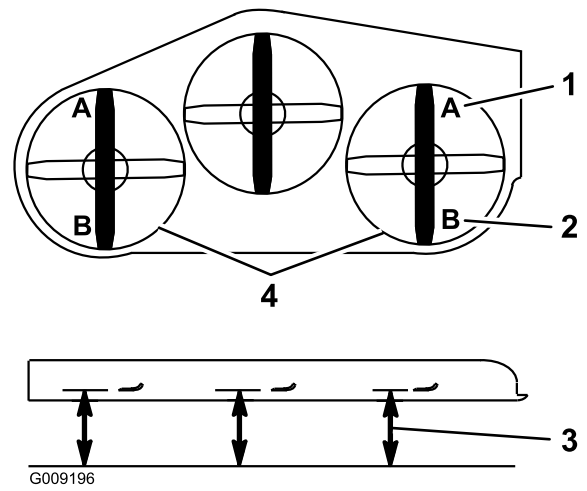

Figure 90
- 9. On both sides of the deck, measure from the level surface to the front tip of the blade (Position A) as shown in Figure 90.
16. On both sides of the deck, measure from the level surface to the back tip of the blade (position B) as shown in Figure 90.